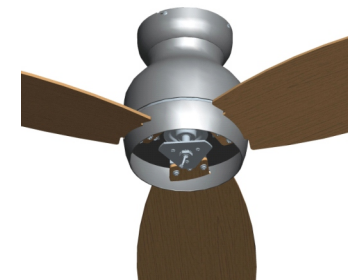

Fig 6.2
6.2 Repeat for the remaining blades. The installation of the blades is shown in Fig 6.2.